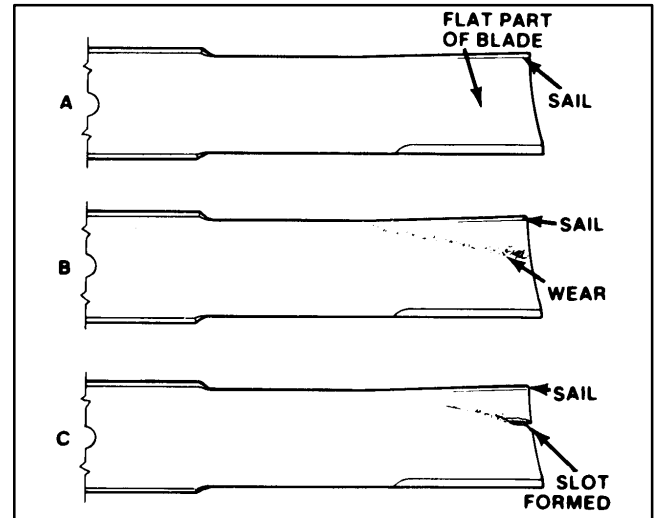

Figure 22
2. Examine cutting ends of the blade carefully, especially where the flat and curved parts of the blade meet (Fig. 22–A). Since sand and abrasive material can wear away the metal that connects the flat and curved parts of the blade, check the blade before using the machine. If wear is noticed (Fig. 22–B), replace the blade: refer to Removing Cutter Blade.